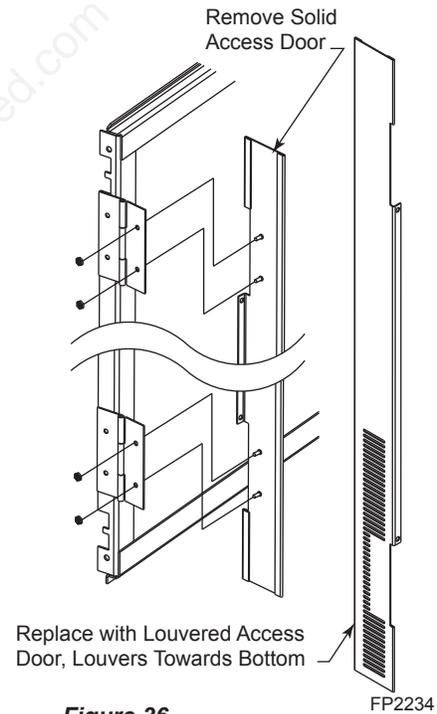

Figure 36 - Install New Louvers
14. Replace side panels attached to the glass frame assembly with the louvered side panels provided with the blower kit by unfastening the four nuts for each cover door. (Do not overtighten or stud may break off.) Use three metal clip screws provided with kit to secure the wire assembly in the front beneath the access cover. *Figure 36*